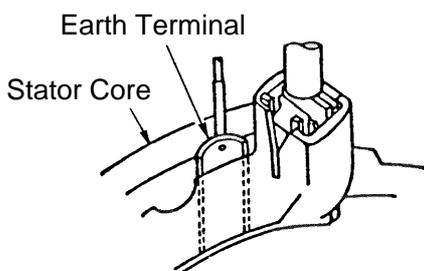

Fig. 16
Ensure that the earth terminal is properly inserted into the gap between the Stator Core and the Housing (9), as illustrated in Fig. 16.